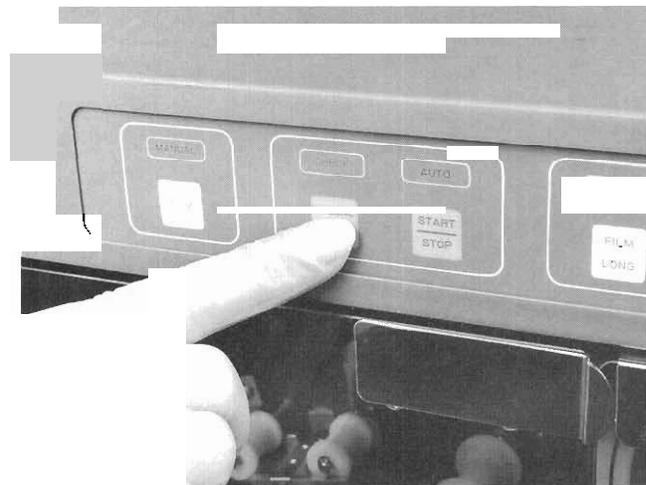

Figure 4-6
10. As prompted by the illuminated CHECK light, confirm the xylene drip volume by pressing the XYLENE CHECK keypad (Figure 4-6). The xylene should be dripping at the rate of 6 to 9 drops per slide for histology and hematology specimens and 8 to 10 drops per slide for cytology specimens. Adjust the volume, if necessary, by turning the xylene adjustment knob. Turn the knob counterclockwise to increase the volume, clockwise to decrease it. A basket of 5 to 6 blank slides can be processed to ensure that the appropriate volume of xylene is being dispensed on each slide. For proper coverslipping, xylene must cover the entire sample area of the slide.